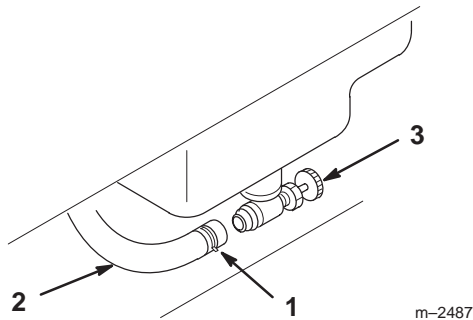

Figure 41
4. Loosen the hose clamp and slide it up the fuel line away from the fuel shut-off valve (Fig. 41).
5. Pull the fuel line off the fuel shut-off valve (Fig. 41).
10. Slide the hose clamp close to the valve to secure the fuel line (Fig. 41).